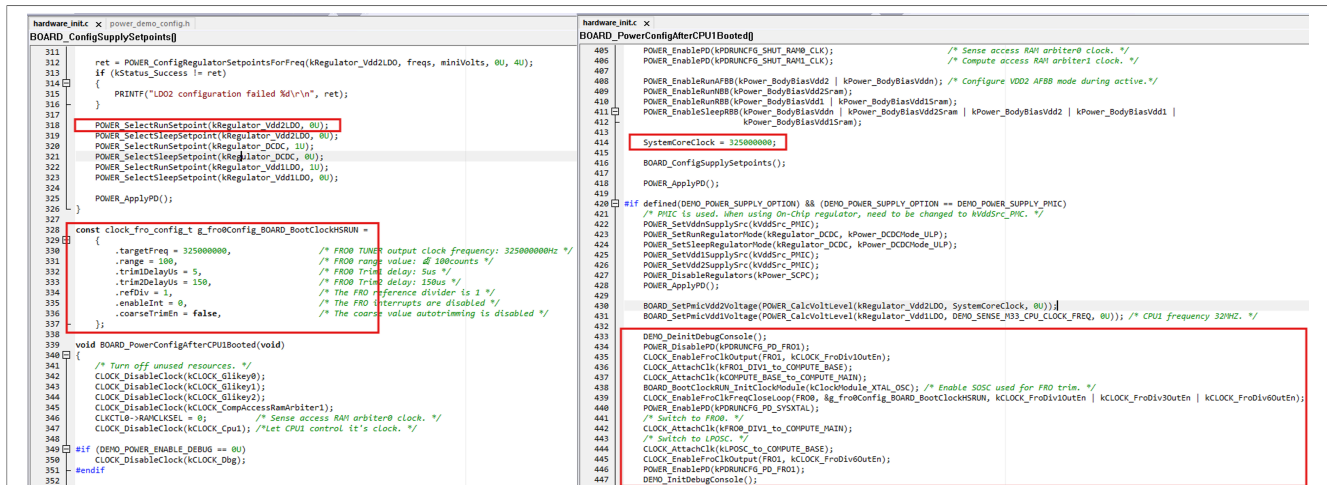

Figure 11. Changed CPU0 frequency 325 MHz
14. Continue to measure the power consumption at different voltages and frequencies. Set the CPU0 to 325 MHz/1.1 V. Figure 11 shows the changed CPU0 frequency from 192 MHz to 325 MHz.